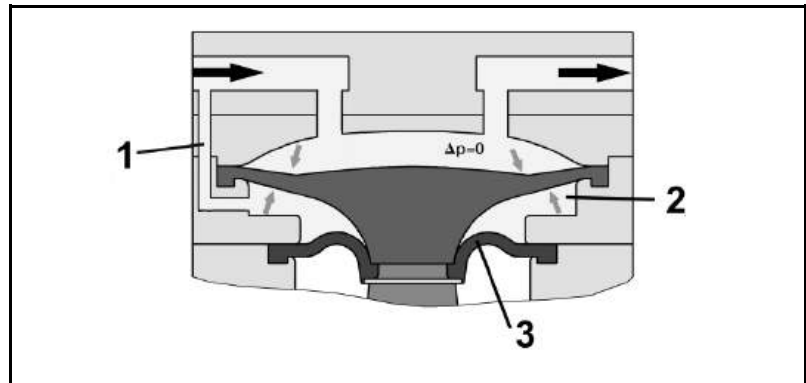

Fig. 4: Function diaphragm stabilization system
An additional diaphragm, the so-called stabilization diaphragm (3), separates the underside of the working diaphragm from the “crank” space of the pump (see fig. 4). The space between the two diaphragms, called a vacuum chamber (2), is connected with the suction side of the pump via an balancing connection (1). This way, the vacuum chamber has approximately the same pressure as the working space of the diaphragm pump. The pressure difference between the upper and underside of the diaphragm approaches zero. The working diaphragm remains stable, independent of the inlet pressure of the pump. This improves the suction speed of the pump significantly, over its entire working range.